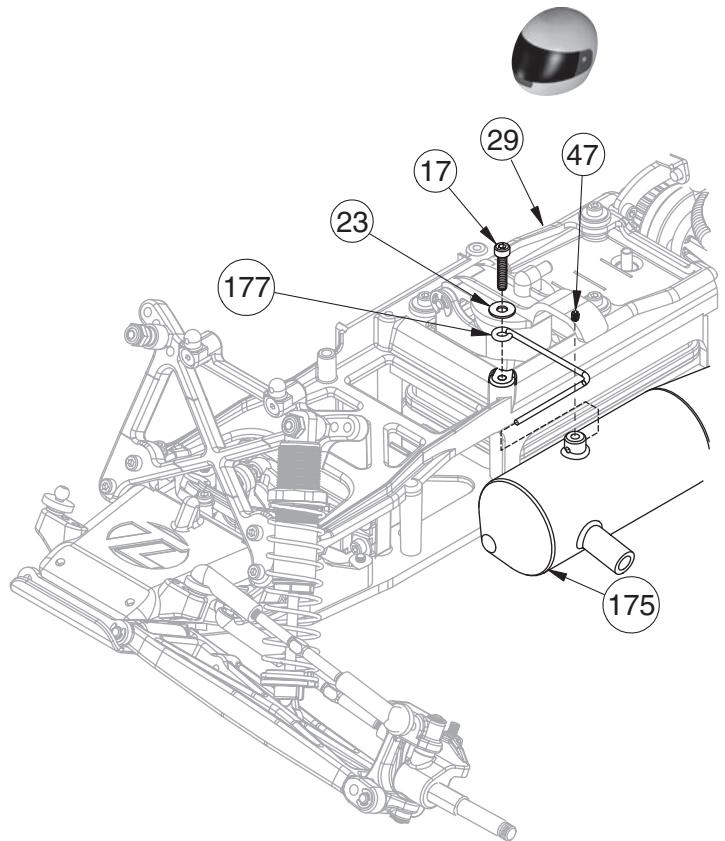

Figure H-13
- 1. Insert the straight end of the Pipe Mount Bracket (177) into the unthreaded hole in the mounting stud on the Tuned Pipe (175) so that the bend is behind the mounting stud. Thread a 5-40 Set Screw (47) into the threaded hole at the top of the mounting stud of the Pipe but do not tighten completely.
- 2. Place a #4 Washer (23) over a 4-40 x 3/8" Cap-Head Screw (17). Position the loop of the Pipe Mount over the hole just forward of the Fuel Tank in the Center Brace (29). Place the 4-40 Screw and Washer through the loop in the end of the Pipe Mount and thread it until tight as shown in Figure H-13. Tighten the 5-40 Set Screw in the top of the Pipe Mount on the Pipe.